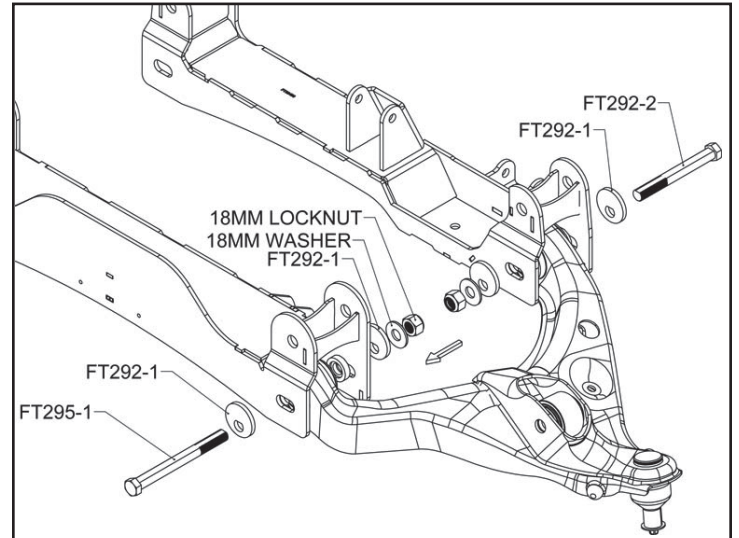

FIGURE 28 - STEP 33
33. Locate the Alignment cam kit (FT295). Locate the factory control arms. Install the lower control arms into the Fabtech crossmembers using the hardware in the cam kit (FT295). Torque the cam bolts at 200 ft-lbs after alignment. **SEE FIGURE 28**